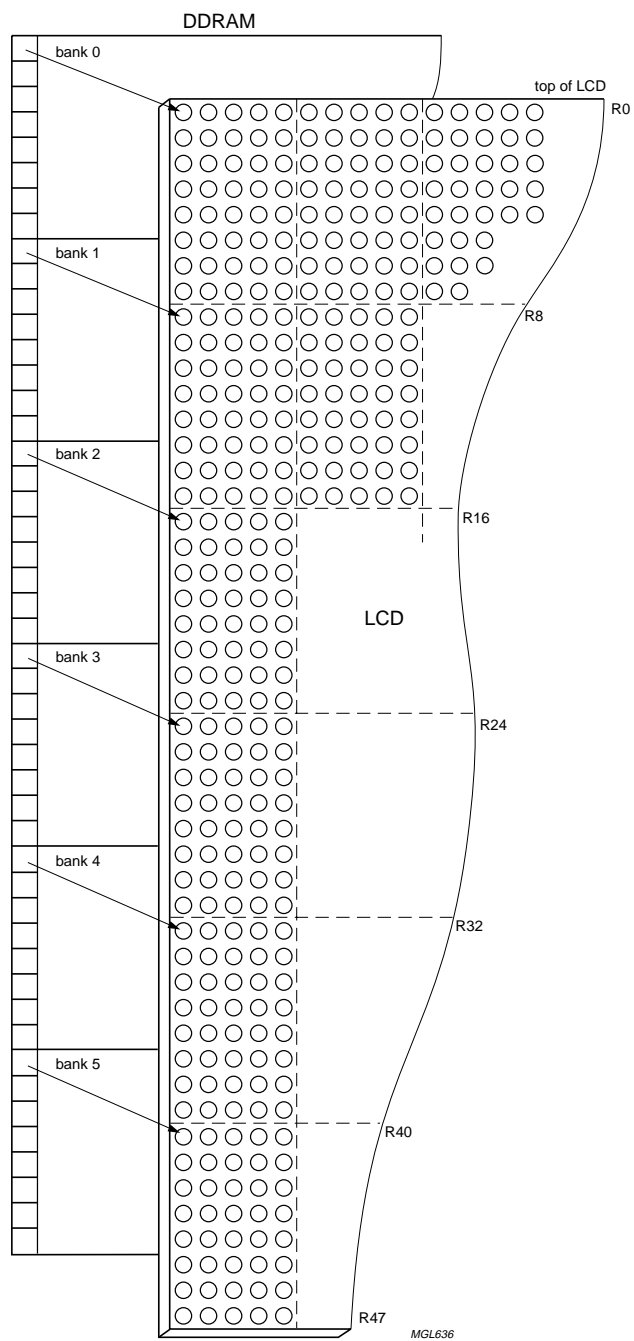

Fig.3 DDRAM to display mapping.
Data is downloaded in bytes into the 48 by 84 bits RAM data display matrix of PCD8544, as indicated in Figs. 3, 4, 5 and 6. The columns are addressed by the address pointer. The address ranges are: X 0 to 83 (1010011), Y 0 to 5 (101). Addresses outside these ranges are not allowed. In the vertical addressing mode ($V = 1$), the Y address increments after each byte (see